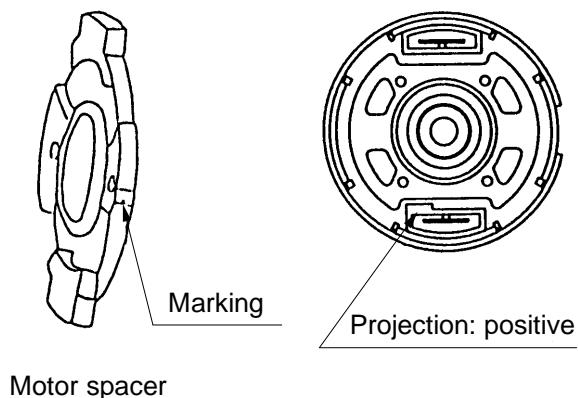

Fig. 8
- (b) Pay attention to the polarity of the Motor [26] when soldering the Internal Wires [33] and [36] to the Motor [26]. The projected side of the Motor [26] is positive. (Fig. 8)